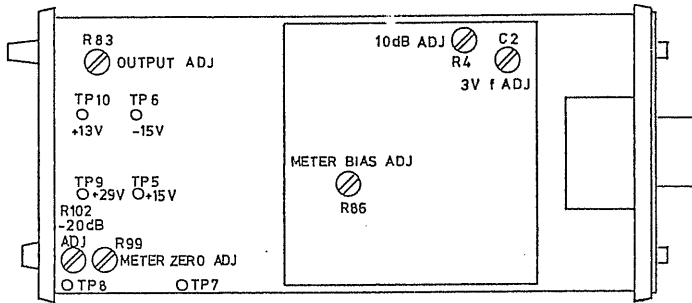
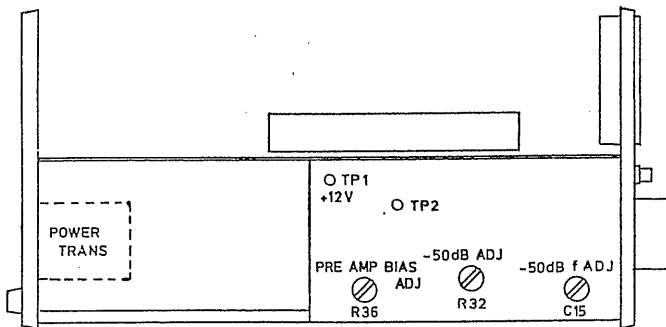

Fig. 5-1 Top view
Fig. 5-2 Side view
Locations of the adjusting potentiometers are shown in Figs. 5-1 and 5-2. To gain access to these potentiometers, remove the top casing after removing the two clamping-screws at each of the top, right and left panels, and remove the bottom casing after removing the four clamping-screws at the bottom panel.
So adjust potentiometer R86 (Fig. 5-1) of the indicating meter drive circuit that the voltage between test point TP7 and GND becomes 0 V. Also, so adjust potentiometer R36 (Fig. 5-2) of the preamplifier of the input section that the voltage between test point TP2 and GND becomes +2.5 V.
Set the RANGE switch ((2) of Fig. 3-1) at the 50 dB range, short the input terminals, and so adjust potentiometer R99 (Fig. 5-1) of the meter drive circuit that the meter ((5) of Fig. 3-1) indicates accurately the zero point of the scale.
Set the RANGE switch at the -20 dB range, apply a calibration signal of 100 mV 400 Hz or 1000 Hz to the input terminal, and so adjust potentiometer R102 (Fig. 5-1) of the meter drive circuit that the meter accurately indicates the full scale position. Next, so adjust potentiometer R83 that the voltage of the output terminal becomes 1 V.
5) Power supply (See Fig. 5-1)